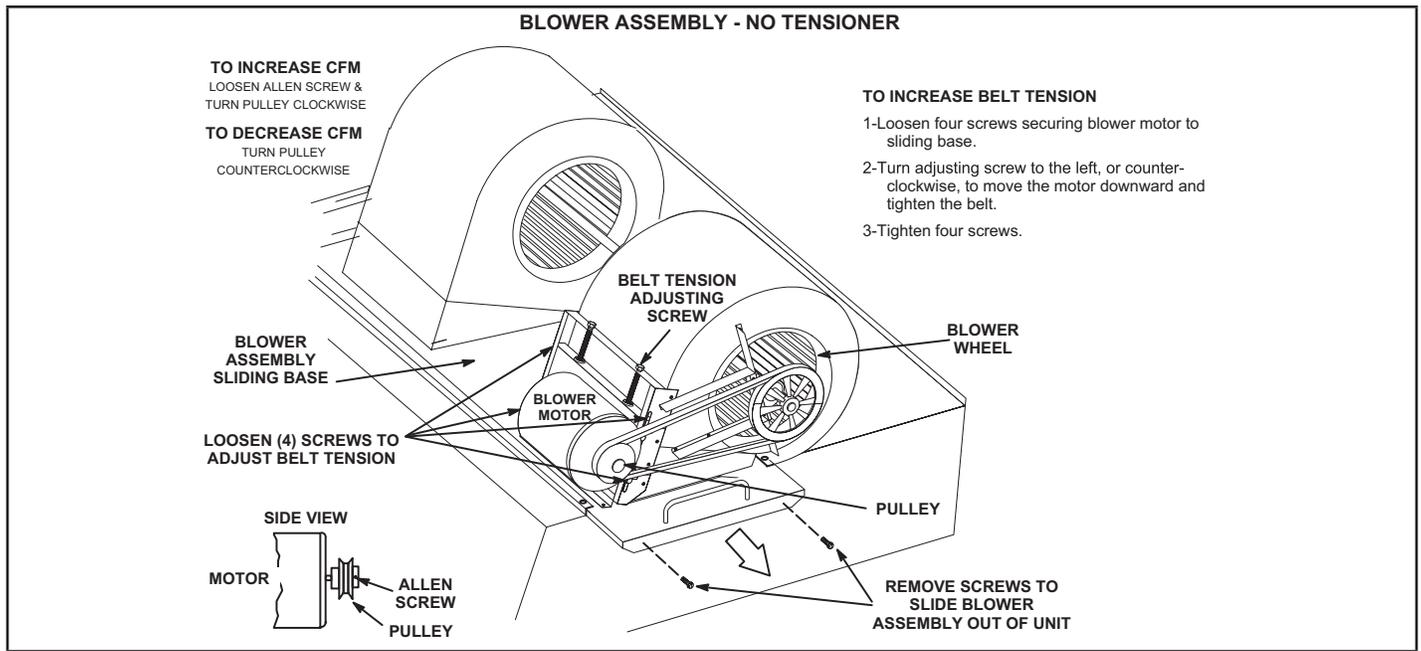

FIGURE 12
The blower compartment is located between the evaporator coil and the compressor / control section on the opposite side of the condenser coil. The blower assembly is accessed by disconnecting the blower motor wiring (and all other plugs) and removing the screws on either side of the sliding base. The base pulls out as shown in FIGURE 12.
- 2 - Remove screws on either side of blower assembly sliding base. See FIGURE 12.
- 4 - The blower RPM can be adjusted at the motor pulley. Loosen Allen screw and turn adjustable pulley clockwise to increase CFM. Turn counterclockwise to decrease CFM. See FIGURE 12. Do not exceed minimum and maximum number of pulley turns as shown in TABLE 4.
- 1 - Loosen four screws securing blower motor to sliding base. See FIGURE 12.